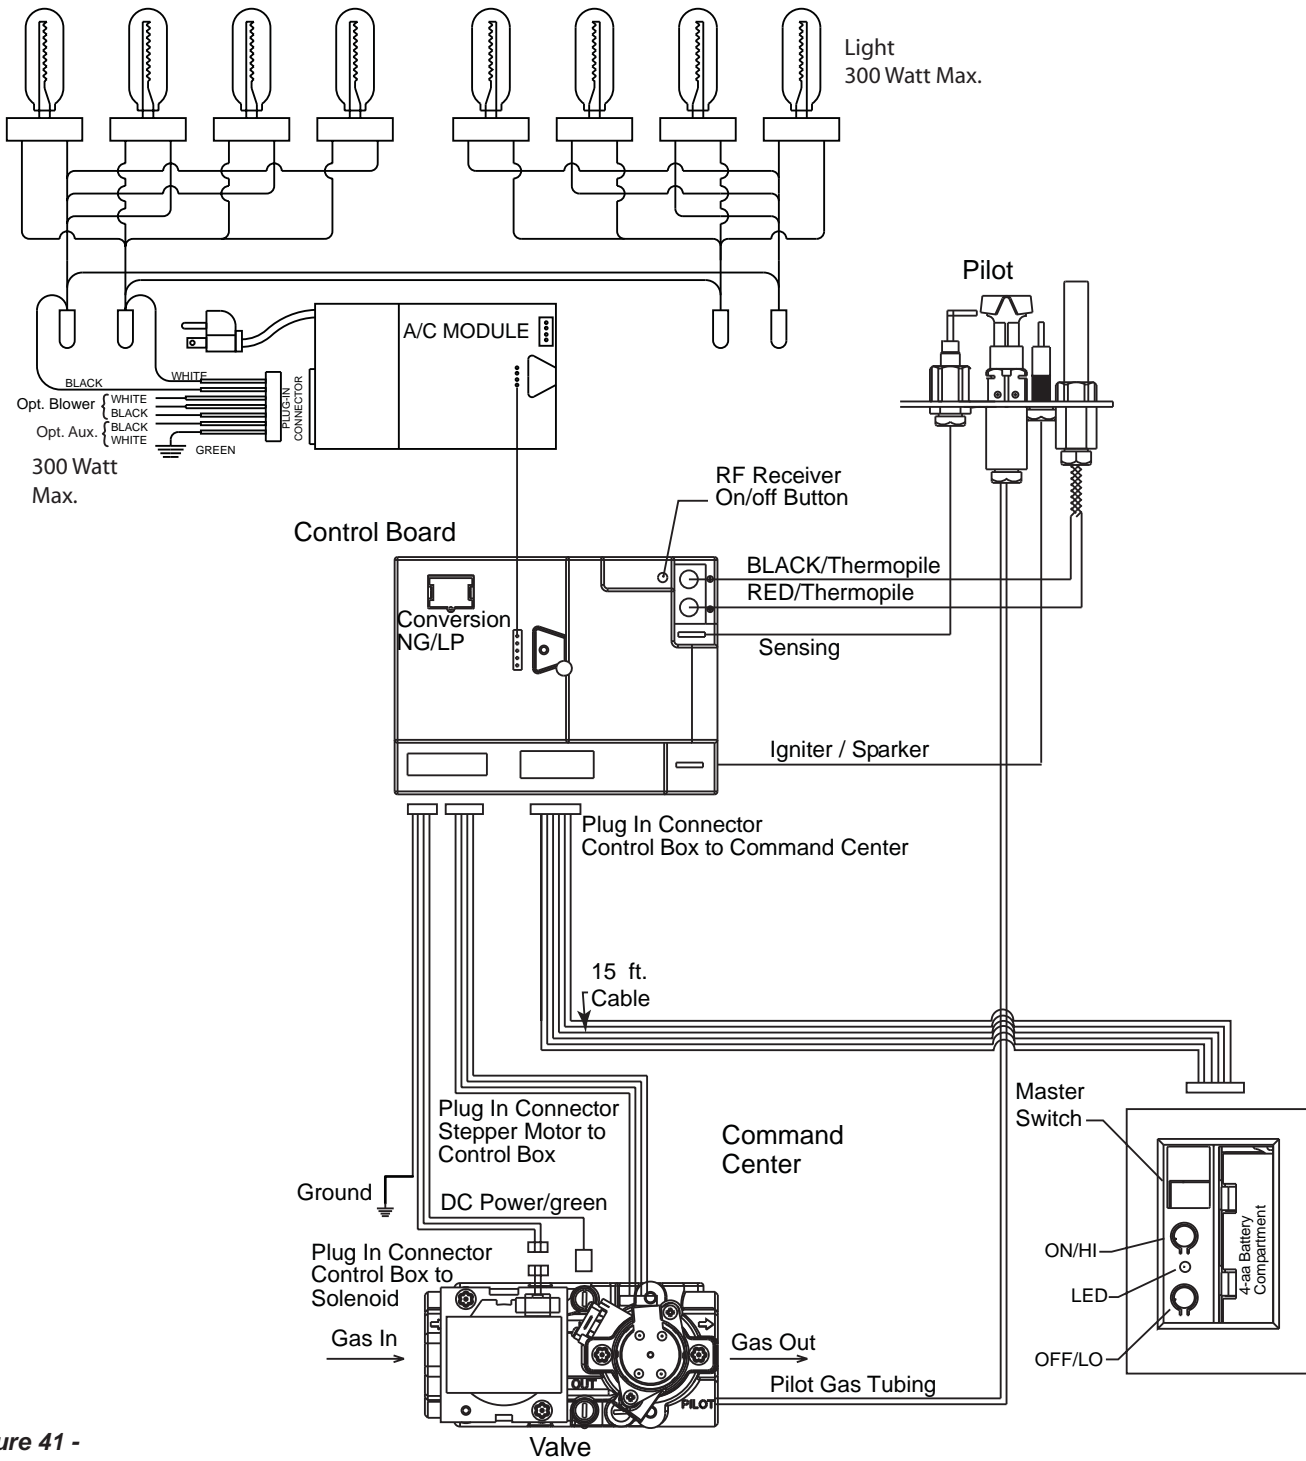

Figure 41 - Signature Command Wiring Diagram
2. Use a Phillips screwdriver to remove socket plate with bulb to be replaced. *Figure 41*